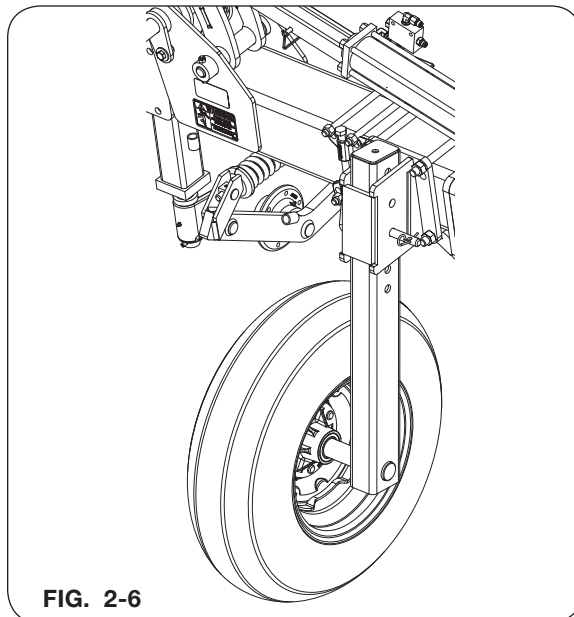

FIG. 2-6
1. Using a safe lifting device rated at a minimum of 125 lbs., install the main wing gauge wheel assembly with the included pin to the outside of the post (FIG. 2-6). Make sure gauge wheel tire is in-line with the coulter blade. Refer to “Overhead Lay-outs” in this section for proper positioning.